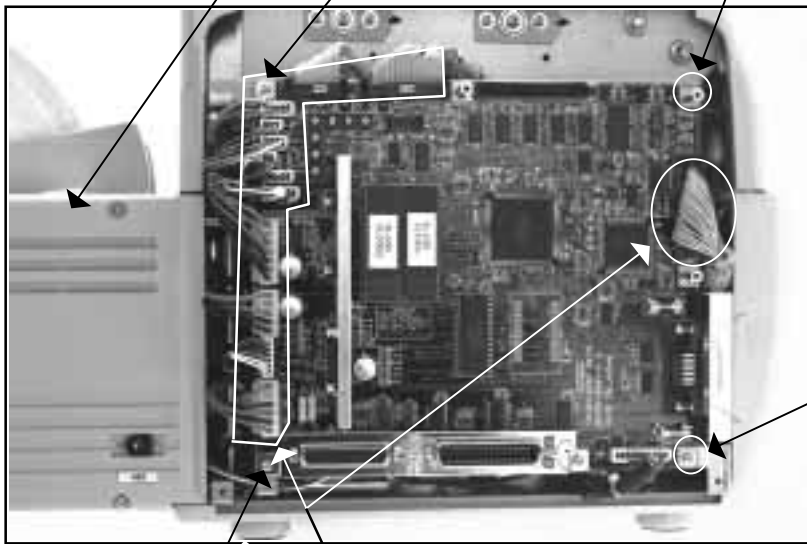

Fig. 6-12
3.	Detach the main PCB by removing (3) screws and (1) standoff. Note the cable connections locations, then disconnect all cables from the PCB. Fig.6-12